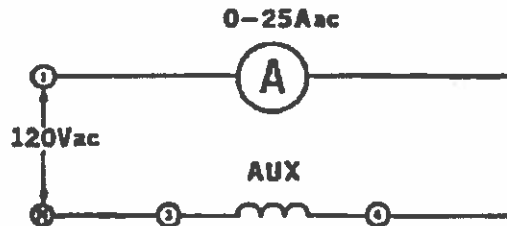

Figure 33-2.
3. a. Disconnect your leads from the main winding and connect them to the auxiliary winding, terminals 3 and 4 as shown in Figure 33-2.